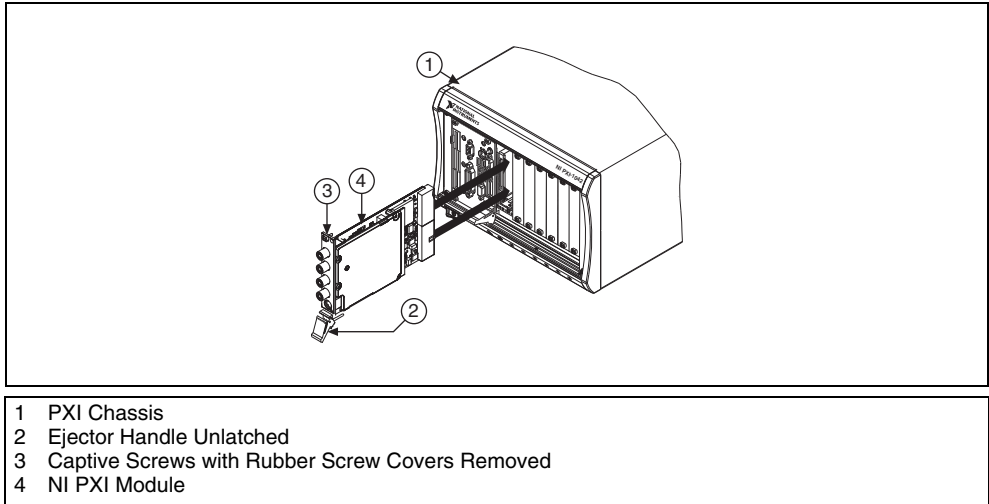

Figure 2. PXI Module Installation
6. Holding the module by the ejector handle, slide it into an available PXI (or hybrid) slot, as shown in Figure 2. Ensure that the base card (the card on the left when looking at the front of the module) engages with card guides in the chassis.
Figure 2 shows the correct installation of a PXI module into a compatible chassis slot.